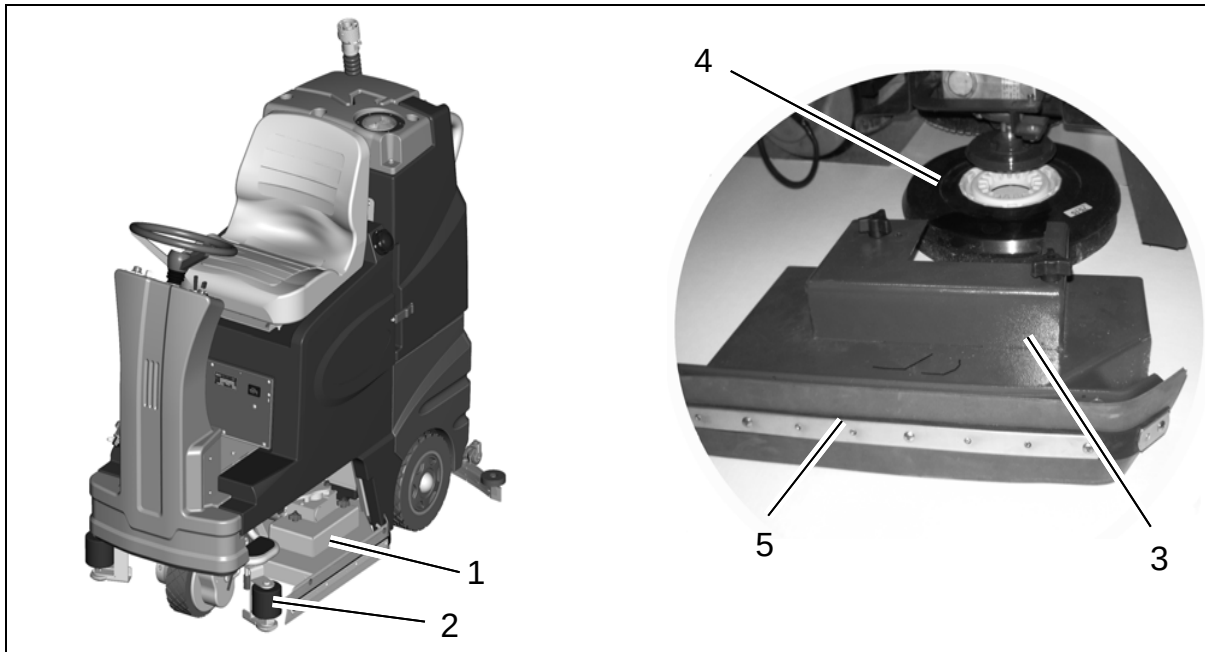

Fig.15
Clean the brushes of the brush deck (Fig. 15/1) at daily intervals or as required.
1. Remove the deck cover (Fig. 15/3). The deck cover can be removed without tools by removing the star shaped knobs
2. Push down on brush (Fig. 15/4) to remove for cleaning.
Check roller bumper (Fig. 15/2) at weekly intervals or replace as required.
Check side squeegee (Fig. 15/5) at weekly intervals or as required. Remove the two (front and back) wingnuts located behind the squeegee blades. Remove squeegee blade. Proceed to mounting in reverse order. Side squeegee blades can be used fourfold by turning them.